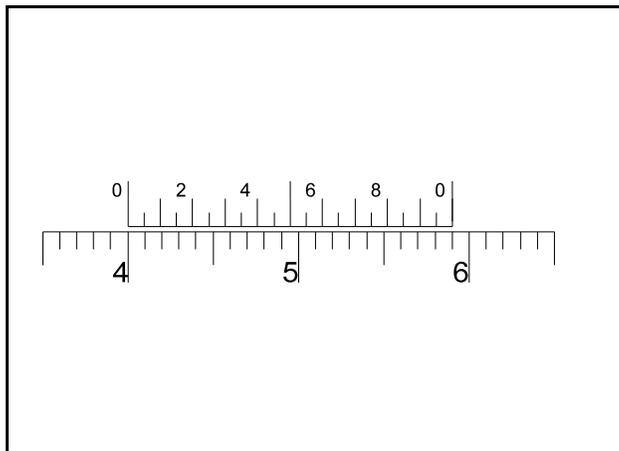

Figure 5: The calipers you will use have 20 divisions in the space of 19. The scale ratio is 20:19.
**IV. Using the vernier calipers provided:** In figure 5 below, the relation between the vernier and main scale is not one of ten in the space of nine but of twenty in the space of nineteen. This increases the precision of the instrument.